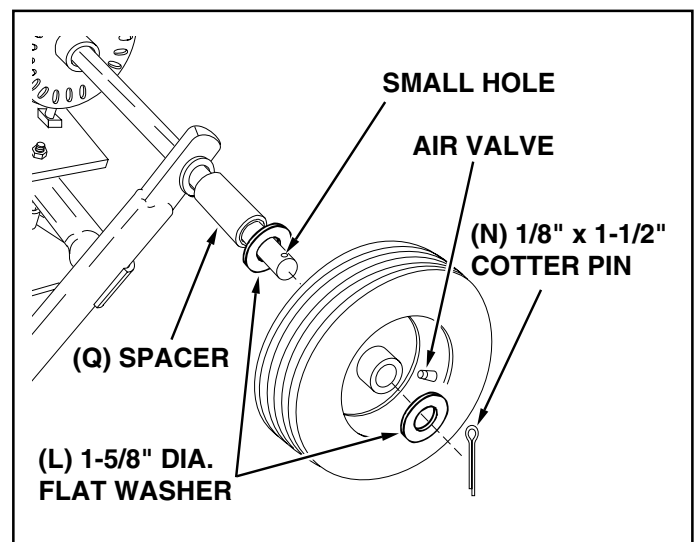

FIGURE 3
7. Assemble a spacer (Q), a 1-5/8" flat washer (L), a wheel (air valve facing out) and another 1-5/8" flat washer (L) onto the end of the axle that has only the **small hole**. See figure 3.
8. Install a 1/8" x 1-1/2" cotter pin (N) into the hole in the axle. See figure 3.